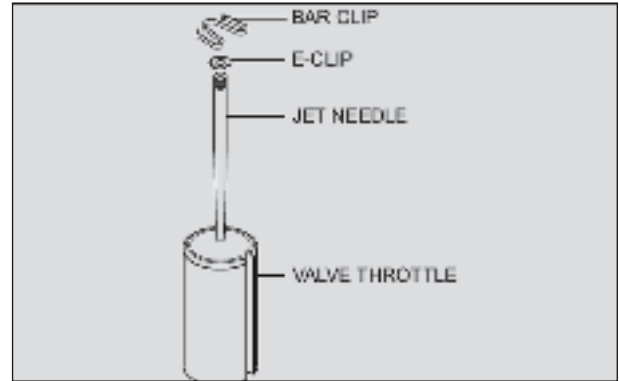

Fig. 4.27
- Remove the jet needle along with E- clip by pushing it from the bottom of the piston valve(Fig. 4.27).